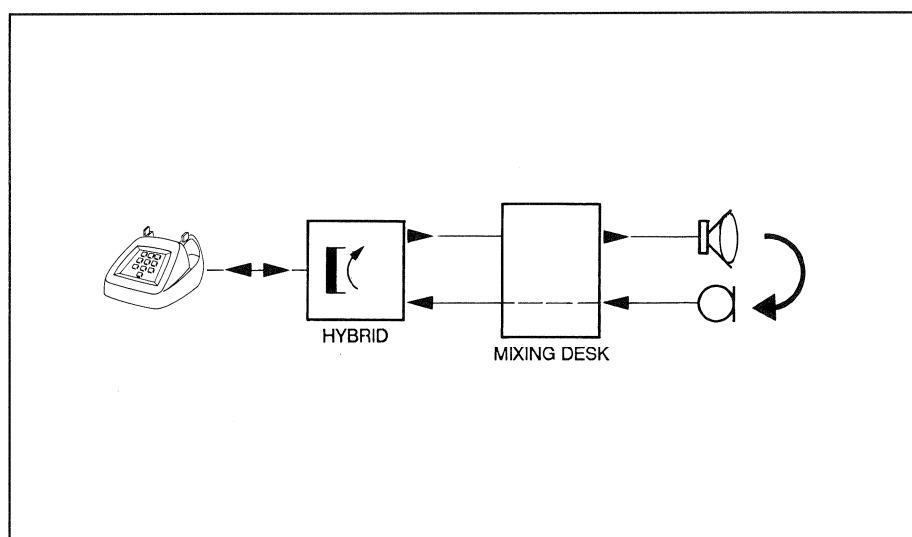

Fig. 5b      Feedback via the studio
- Feedback in the studio, particularly when monitoring the program via speakers (see Fig. 5b);